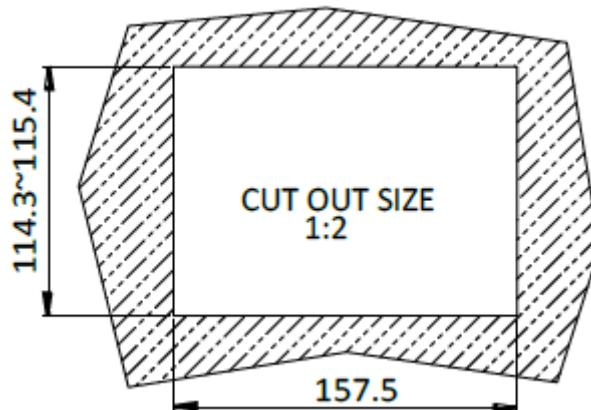

Figure 3-20: Panel Cutout Dimensions
Step 2: Cut out a section of the panel that corresponds to the rear panel dimensions of the PPC-F06B-BT. The recommended cutout sizes are shown below (**Figure 3-20**).